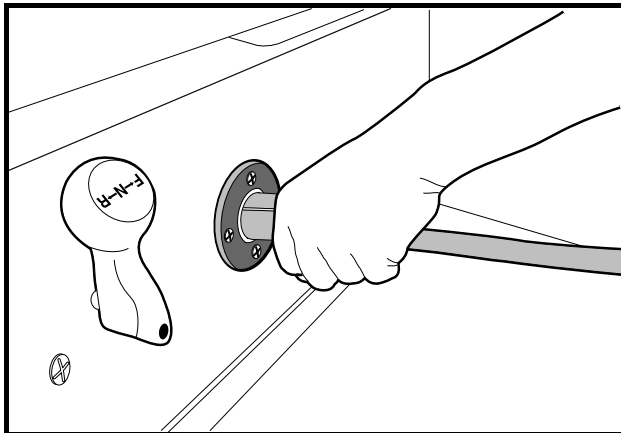

Figure 15 Correct Insertion of Charger DC Plug
- Do not rock or bend the plug. To connect the charger plug to the vehicle receptacle, grasp the plug handle and push the plug straight into the receptacle (Figure 15, Page 32).
Insert the charger DC plug into the vehicle receptacle. The charger will turn on two to ten seconds later (**Figure 15**).